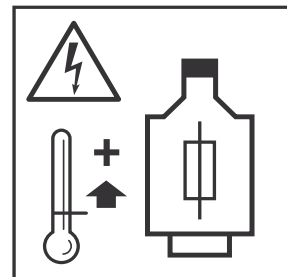

Fig.: 12
3. Allow for a motor overload protection in the switch box (fig. 12,, See Pg 7)